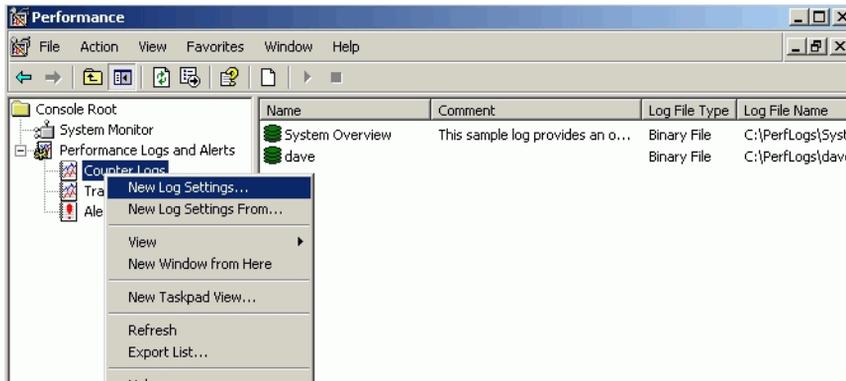

Figure 79. Creating a New Log
3. Right click on **Counter Logs** and choose **New Log Settings** from the context menu, Figure 79.